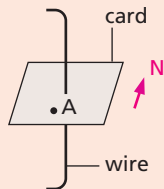

Figure 45.14
- 1 The vertical wire in Figure 45.14 is at right angles to the card. In what direction will a plotting compass at A point when